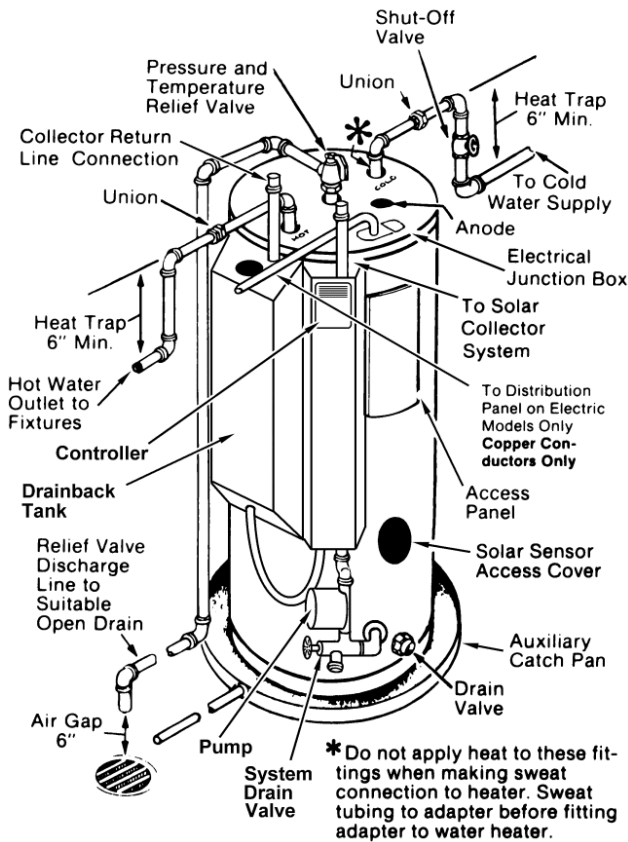

Figure 1. Tank System Assembly, DB type
1. **“COLD”** Connect the cold water supply to the connection marked “COLD” on the top of the water heater tank. Install a shut off valve in the cold water line near the water heater. See Figures 1 and 2.
2. **“HOT”** Connect the hot water line to the connection marked “HOT” on top of the water heater tank. See Figures 1 and 2.
CAUTION: The water heater should not be located in an area where leakage of the tank or connections will result in damage to the area adjacent to it or to lower floors of the structure. When such areas cannot be avoided, it is recommended that a suitable catch pan, adequately drained, be installed under the water heater. See Figure 1. and 2.
3. **“Temperature and Pressure (T&P) Relief Valve”** Install the T&P Relief Valve in the marked opening on top of water heater. See Figure 1. and 2. The pressure rating of the relief valve must not exceed the working pressure rating of the water heater tank as marked on the tank’s rating plate (150 psi for standard glass-lined tank). If other components in the system have a lower working pressure, the T&P relief valve should be selected accordingly. The BTUH Rating of the relief valve must not be less than the input rating of the water heater (1 watt = 3.412 BTUH).
Refer to Figures 1. & 2. for the following. Install the T&P relief valve in the 3/4" NPT fitting provided and marked for the purpose on the water heater. The outlet of the relief valve should be directed to a suitable open drain, so that the discharge water cannot contact live electrical parts and to eliminate potential water damage. The discharge line must be no smaller than outlet of the relief valve. Material for the discharge line shall be of the type used for hot water distribution. The valve and the line must drain fully by gravity. The end of the discharge line should terminate within 6 inches of an open drain, should not be concealed and should be protected from freezing. No valve or restriction of any type shall be installed between the relief valve and tank or in the discharge line. Follow all local codes.
4. **FILL the TANK.** Refer to Figures 1 & 2 for this procedure. After making sure the Drain Valve is closed, open the Shut Off Valve in the cold water line. Open hot water faucet in the highest location in the dwelling and keep it open until water flows from it in a steady stream.